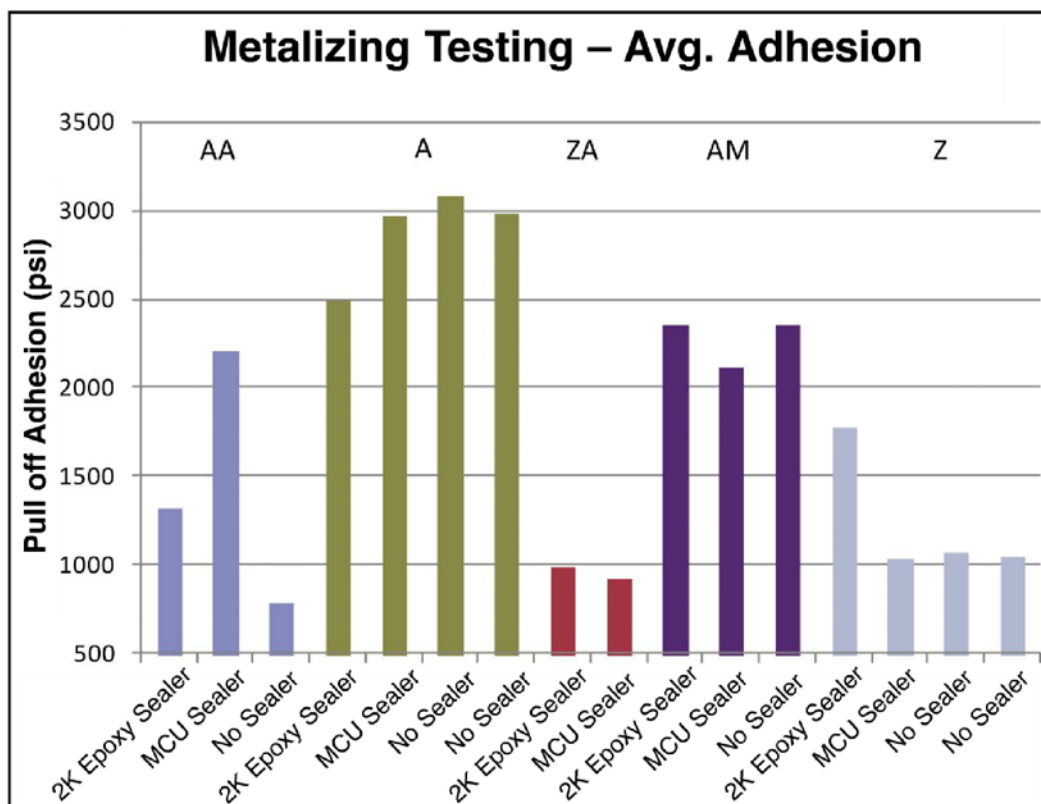

Fig. 2: Pull-off adhesion data for thermal spray systems prior to testing.
- **Adhesion Test Results:** Each plate was tested for pull-off adhesion strength in accordance with ASTM D4541. In Fig. 2 (p. 26), the results show that aluminum metalized samples produced the highest adhesion strengths. No adhesion testing was performed on unsealed 85/15 panels. These values meet or exceed the adhesion requirements set by the SSPC paint manual: 500, 700, and 1,000 psi for zinc, ZA, and aluminum respectively.²⁴